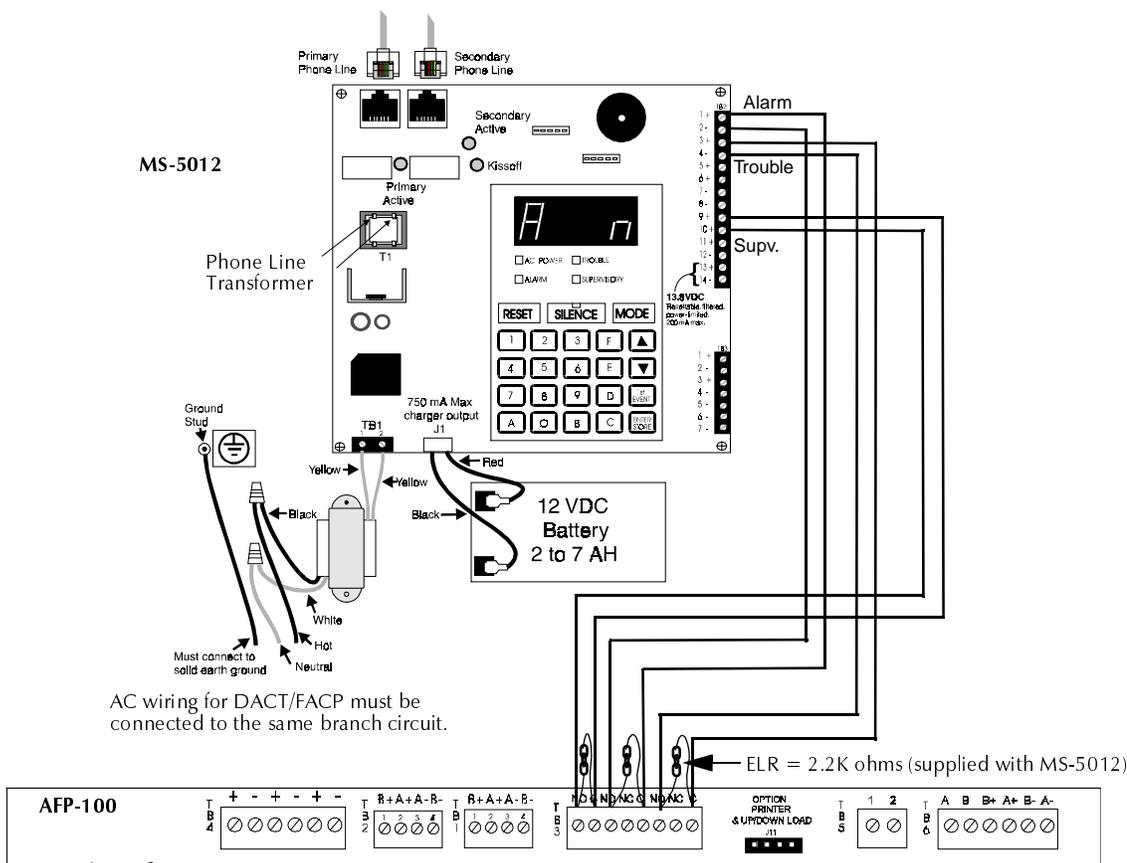

Figure 51 Central Station Service Using MS-5012
- MS-5012 for connection to a compatible listed Central Station DACR or Protected Premises Receiving Unit. This unit must be installed as outlined in Figure 51, “Central Station Service Using MS-5012,” on page 125.